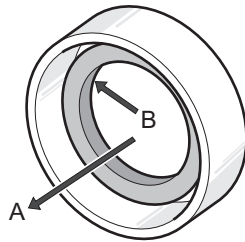

Figure 9 Seal Installation
Apply a light coat of grease to inner race and place inner wheel bearing (7) in hub. Orient new grease seal (8) so the flange side of the seal is facing into the bore. Tap gently into place until seal is flush with end of hub. Lubricate lips of seal and spindle with grease (Ref. Figure 9).